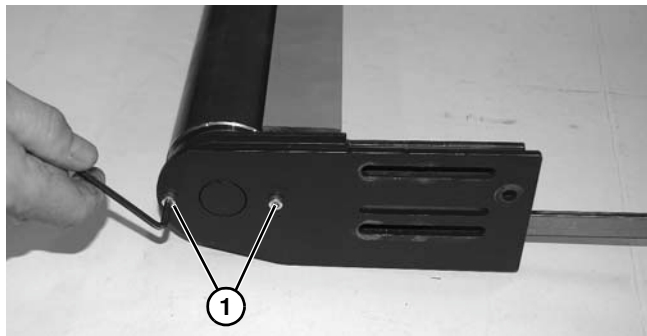

Figure 106
7. Remove two screws (**Figure 106, item 1**) securing cover plate from tension tail assembly.